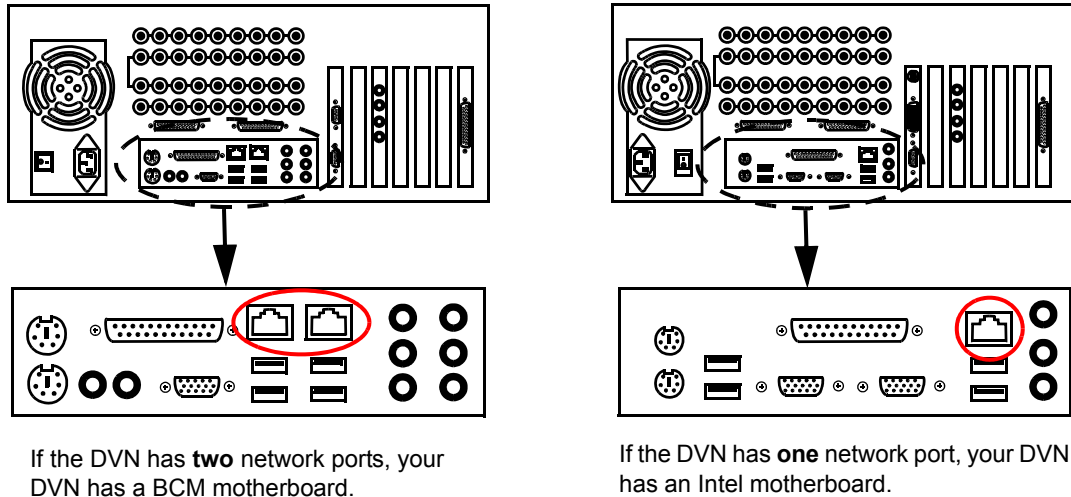

Figure 1: Determining the Motherboard Manufacturer
1. On the back of the DVN, verify the number of network ports. See Figure 1.